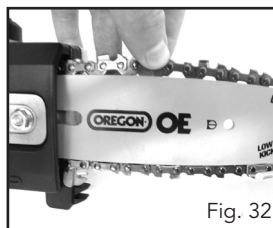

Fig. 32
3. To get the correct chain tension, firmly pull up on the chain at the middle of the top of the exposed guide bar. When the chain is pulled up to its highest point, the bottom tip of the links should only just stay in the track [middle of the guide bar] (Fig. 32).